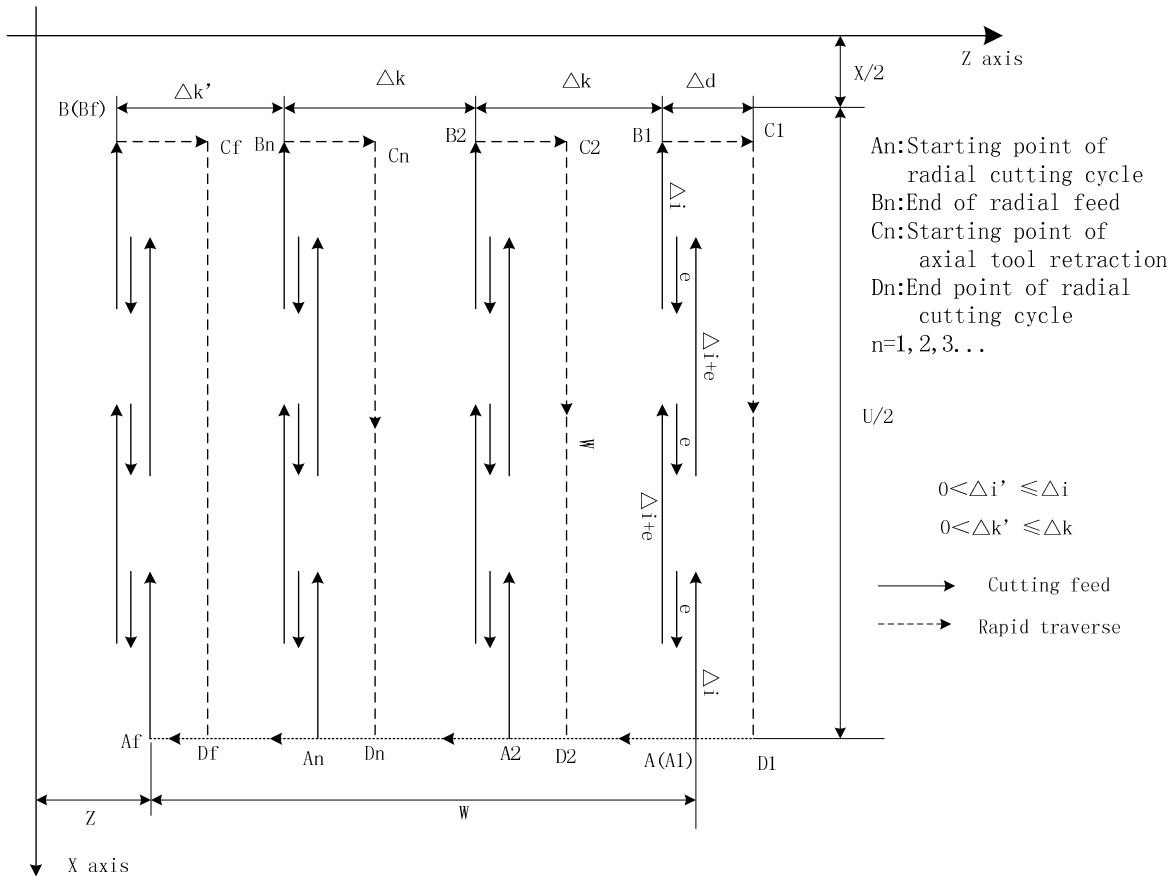
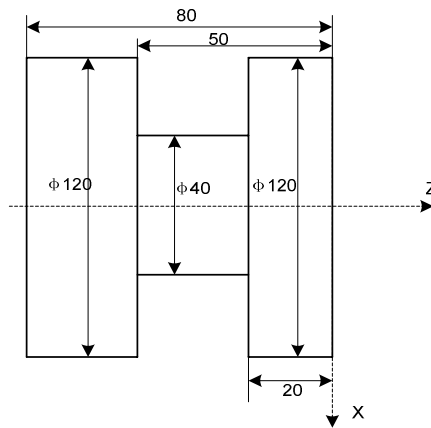

Fig. 3-36 G75 path
Fig. 3-37 G75 cutting
**Execution process:** (Fig. 3-36)
- ① Radial (X) cutting feed  $\Delta i$  from the starting point of radial cutting cycle, feed in X negative direction when the coordinates of cutting end point is less than that of starting point in X direction, otherwise, feed in X positive direction;
- ② Radial(X) rapid tool retraction  $e$  and its direction is opposite to the feed direction of ①;
- ③ X executes the cutting feed  $(\Delta k+e)$  again, the end point of cutting feed is still in it between starting point  $A_n$  of radial cutting cycle and end point of radial tool infeed, X executes the cutting feed  $(\Delta i+e)$  again and executes ②; after X cutting feed  $(\Delta i+e)$  is executed again, the end point of X cutting feed is on  $B_n$  or is not on it between  $A_n$  and  $B_n$  cutting feed to  $B_n$  and then execute ④;
- ④ Axial(Z) rapid tool retraction  $\Delta d$  to  $C_n$ , when Z coordinate of  $B_f$  (cutting end point) is less than that of A (starting point), retract tool in Z positive, otherwise, retract tool in Z negative direction;
- ⑤ Radial (Z) rapid retract tool to  $D_n$ , No. n radial cutting cycle is completed. The current radial cutting cycle is not the last one, execute ⑥; if it is the previous one before the last radial cutting cycle, execute ⑦;
- ⑥ Axial(X) rapid tool infeed, and its direction is opposite to ④ retract tool. If the end point of tool infeed is still on it between A and  $A_f$  (starting point of last radial cutting cycle) after Z tool infeed  $(\Delta d+\Delta k)$ , i.e.  $D_n \rightarrow A_{n+1}$  and then execute ① (start the next radial cutting cycle); if the end point of tool infeed is not on it between  $D_n$  and  $A_f$  after Z tool infeed  $(\Delta d+\Delta k)$ , rapidly traverse to  $A_f$  and execute ① to start the first radial cutting cycle;
- ⑦ Z rapidly traverses to A, and G75 is completed.
- The cycle movement is executed by X(W) and P( $\Delta$ i) blocks of G75, and the movement is not executed if only "G75 R(e);" block is executed;
- $\Delta$ d and e are specified by the same address R and whether there are X(U) and P( $\Delta$ i) words or not in blocks to distinguish them;
**Example:** Fig.3-37